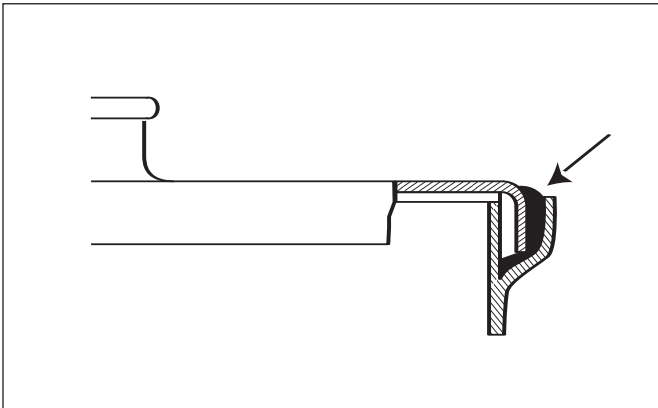

FIGURE 4-1
4.3. Fill the space between the top and the outside edge of the channel with sealant. (See FIGURE 4-1.)